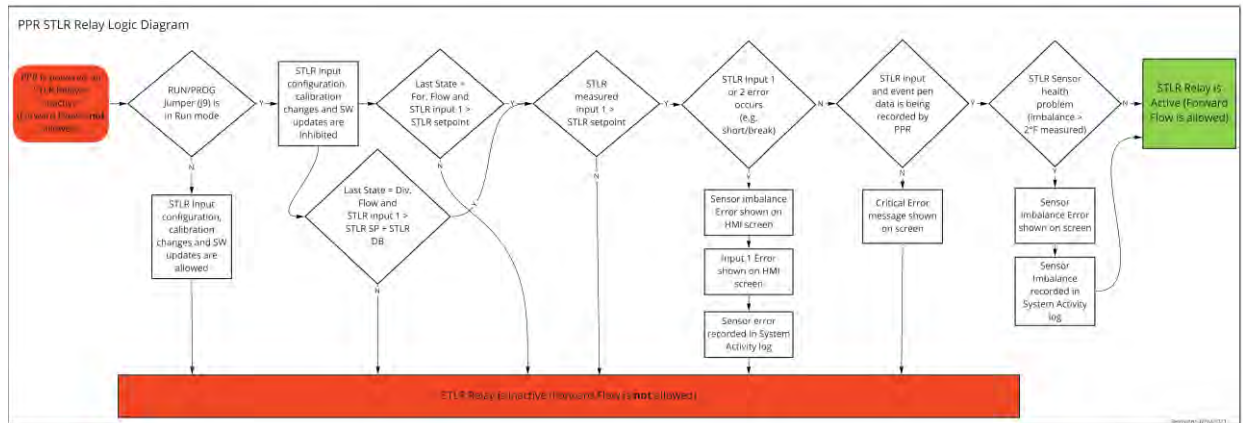

Figure 14: PPR STLR Relay Logic Diagram
- STLR Relay Output can be active if other conditions are met, See Figure 14
- STLR Relay Output is inactive See Figure 14
The STLR Relay functions as a real time controller output which activates the STLR Relay when STLR conditions are met. The primary condition for the STLR relay to become active is STLR Measured Input > STLR SP. Additional conditions to activate the STLR Relay are shown in Figure 14 below.
The STLR Relay is designed to fail safe under various PPR or input error conditions as shown in Figure 14. Proper system wiring practices covered in Section 3.7 of this manual are required to ensure fail safe operation.